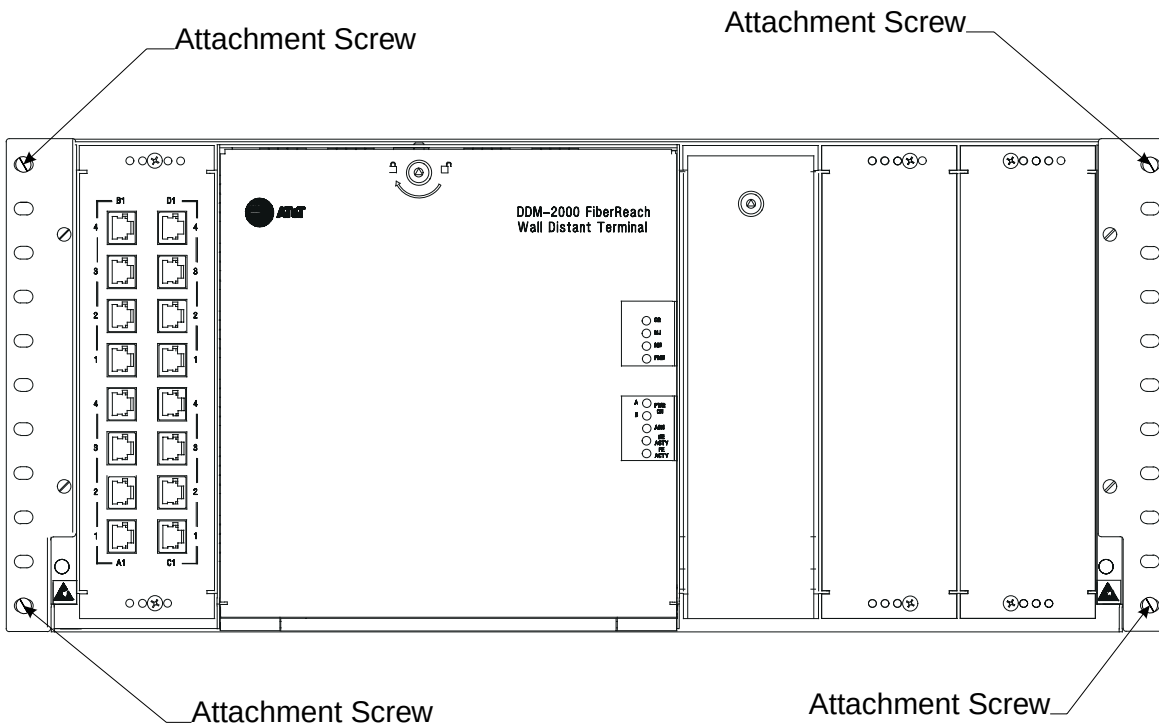

Figure 1. Wall DT Cabinet — Front View
1. Remove the four attachment screws from the front of the Wall DT as show in Figure 1.